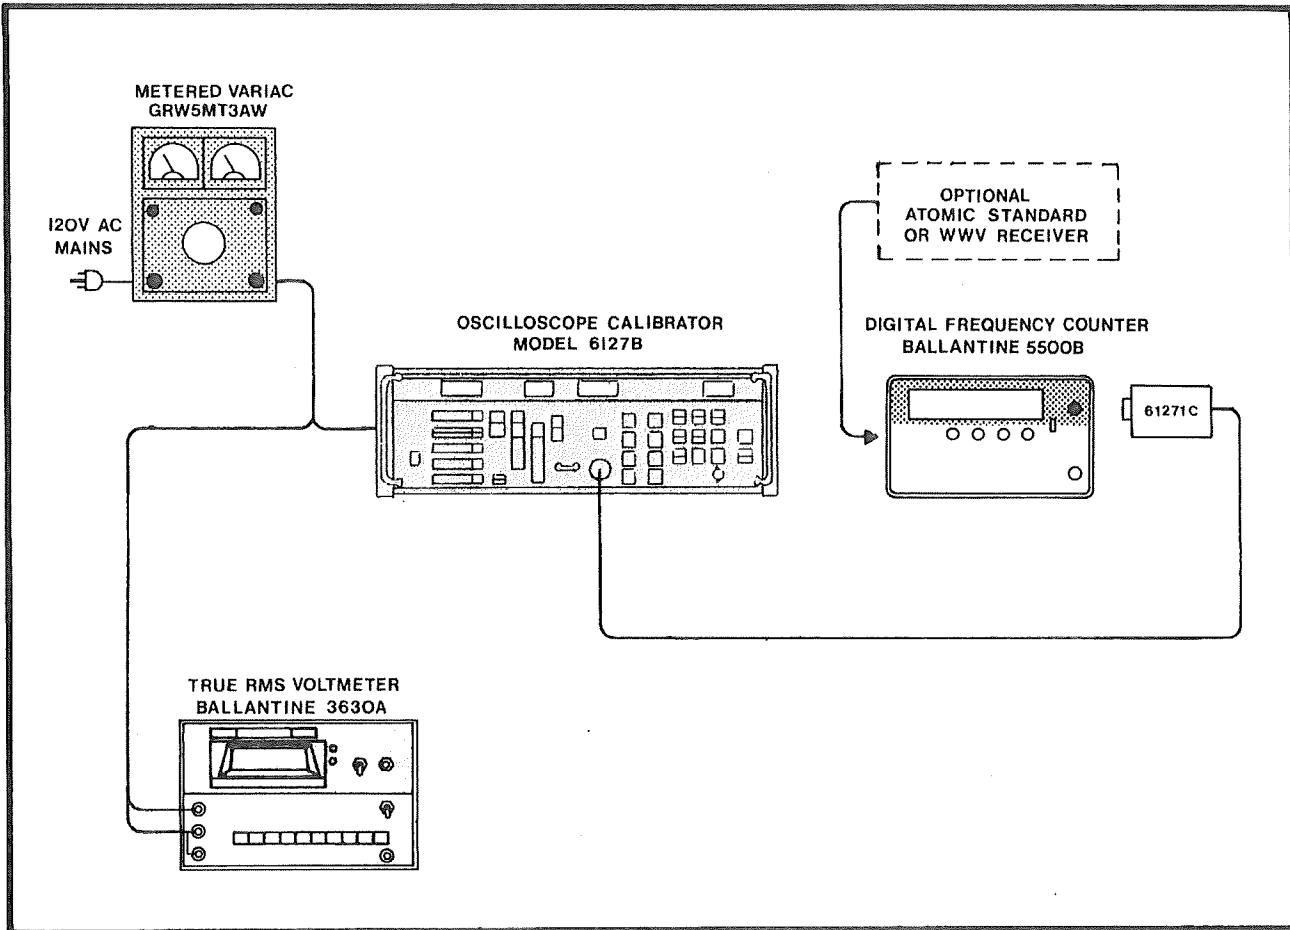

Figure 5-1. Clock Frequency Check, Test Set-Up
a. Interconnect the Calibrator and test equipment as shown in figure 5-1.
a. Connect the equipment as shown in figure 5-1.